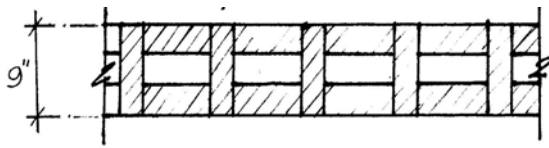

Fig 1A - Plan view
- The height of this first layer would be about 4" with the ends of the brick facing the outer and inner face of the wall (see fig 1A)